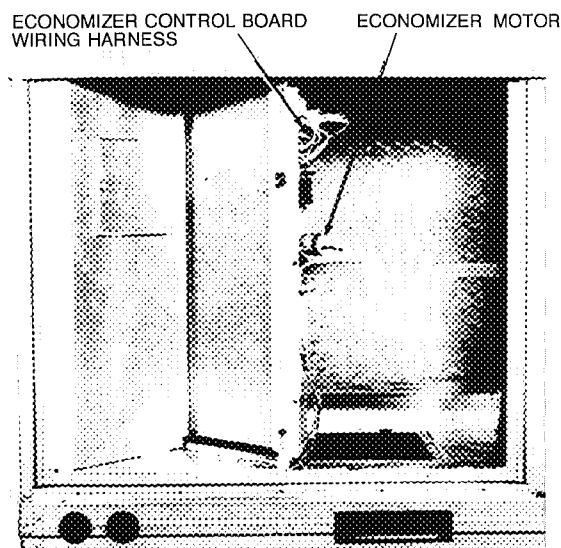

Fig. 17 – Varislide Horizontal Economizer Installation (90 Degree Rotation)
- a. Rotate the economizer 90 degrees until the economizer motor faces the condenser section (see Fig. 17).